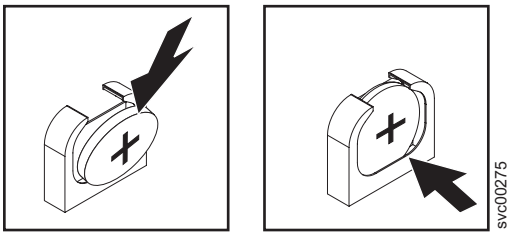

Figure 143. SAN Volume Controller 2145-8G4 CMOS battery holder
- b. Press the battery down into the socket until it clicks into place. Make sure that the battery clip holds the battery securely, as shown in Figure 143.